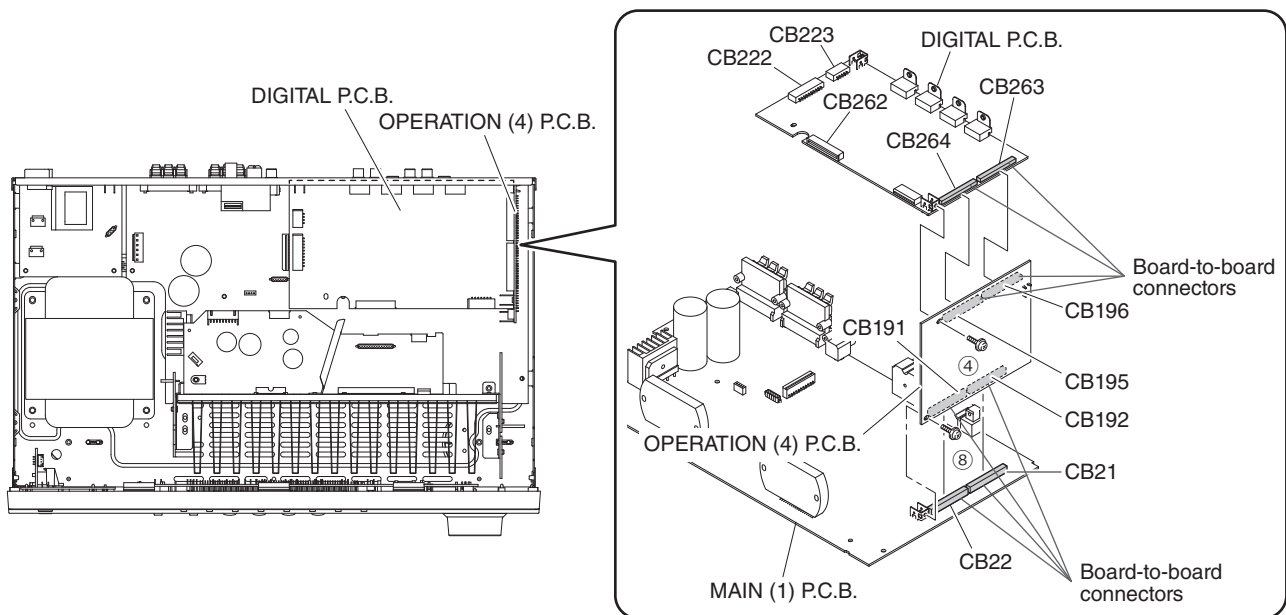
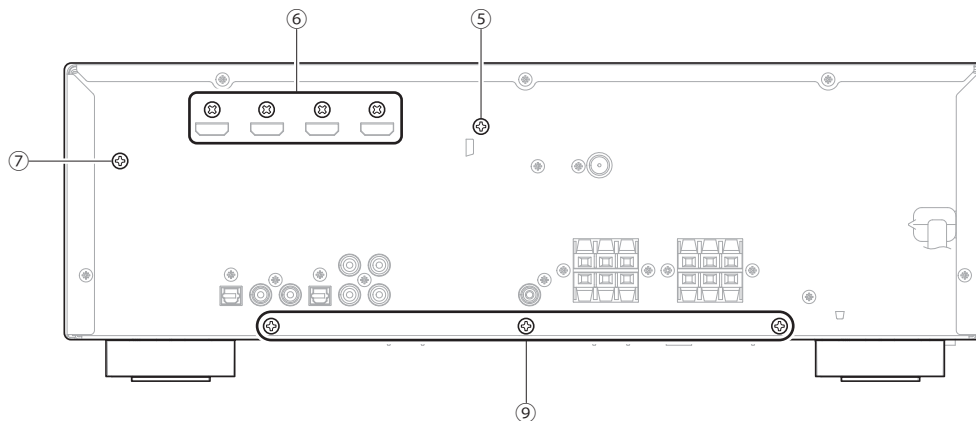

Fig. 2
Fig. 3
- Remove CB222 and CB223. (Fig. 2)
- Unlock and remove CB262. (Fig. 2)
- Remove screw (④). (Fig. 2)
- Remove the DIGITAL P.C.B. which is connected directly to the OPERATION (4) P.C.B. with board-to-board connectors. (Fig. 2)
4. Removal of OPERATION (4) P.C.B.
- Remove screw (⑦). (Fig. 3)
- Remove screw (⑧). (Fig. 2)
- Remove the OPERATION (4) P.C.B. which is connected directly to the MAIN (1) P.C.B. with board-to-board connectors. (Fig. 2)
- Remove 3 screws (⑨). (Fig. 3)